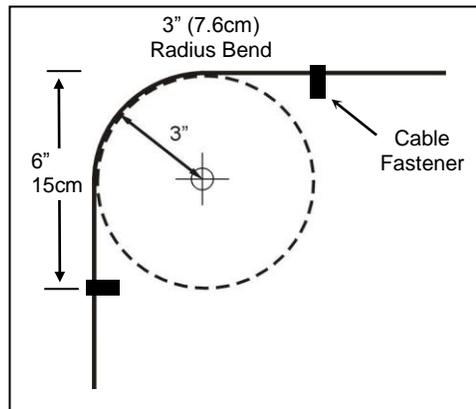

Figure 58
- **NEVER** bend the detection wire to a 90° angle. All bends or turns should be rounded with a minimum 3 inch (7.6 cm) radius, as shown below in Figure 58, and fastened six inches from the right angle as shown.